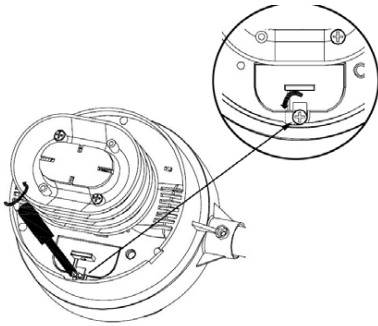

Figure 1
1. Turn the screwdriver counter clockwise to loosen the screw, remove the sheet metal (figure 1)